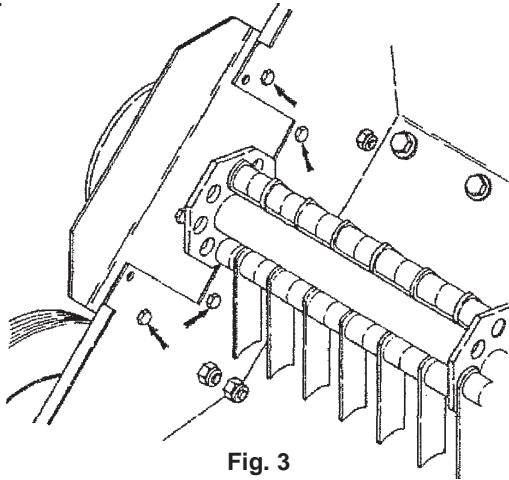

Fig. 3
2. After removing the belt shield, remove the twelve bolts on the left side and three on the right side which hold the blade assembly to the main body (see Fig. 3).